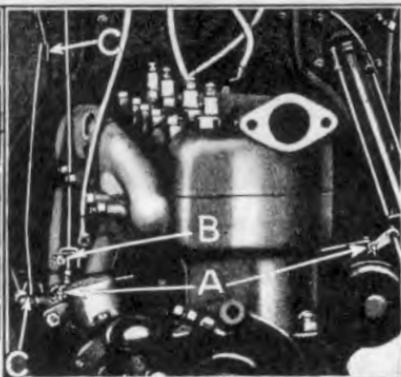

Fig. 28
25. **Remove carburetor pull rod** by withdrawing the two cotter pins which hold pull rod to carburetor throttle and throttle rod lever (See "A" Fig. 28).